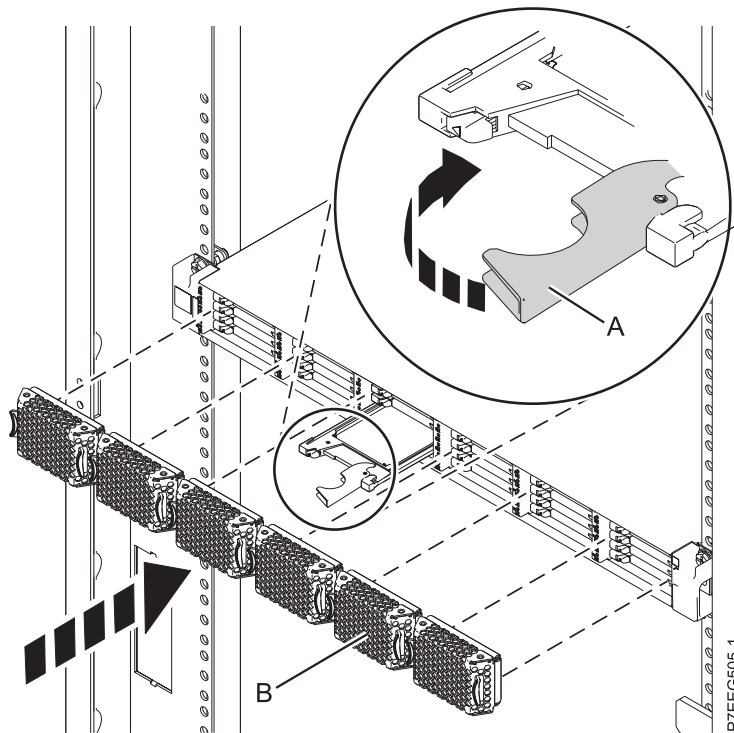

Figure 23. Replacing a solid-state drive in the ED/R1 PCIe storage enclosure.
- When the solid-state drive identify LED turns on solid, slide the solid-state drive all the way into the ED/R1 PCIe storage enclosure until it is fully seated. Then rotate the handle (A) to the locked position. See Figure 23 on page 39.
6. Install the bezel (B).